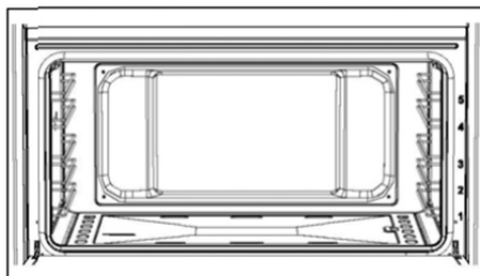

Fig. 21
When using the oven for the first time it should be operated for a maximum of 30 minutes at a temperature of about 250°C to eliminate any odours generated by the internal insulation. During normal oven use, select the desired cooking temperature using the thermostat knob and wait until the orange light turns off (set temperature has been reached) before putting in any food. The oven is equipped with 5 guides at different heights (Fig. 21) which can be used to insert shelves or the tray. To keep the oven as clean as possible it is recommended to cook meat on the tray or on the shelf that has been inserted inside the tray. Always turn the oven off by adjusting the oven function control knob to off (0).